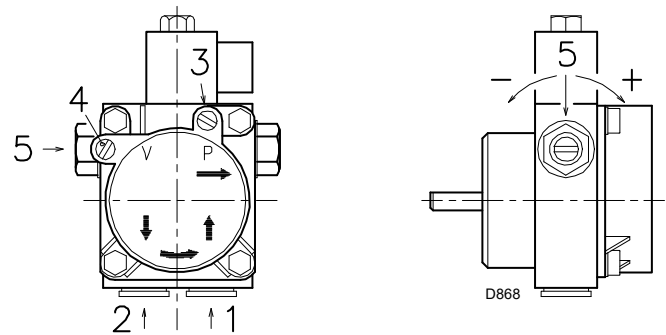

Fig. 23
- Key (Fig. 23)
In order for self-priming to take place, one of the screws 3) of the pump, see Fig. 23, must be loosened in order to bleed off the air contained in the suction line.